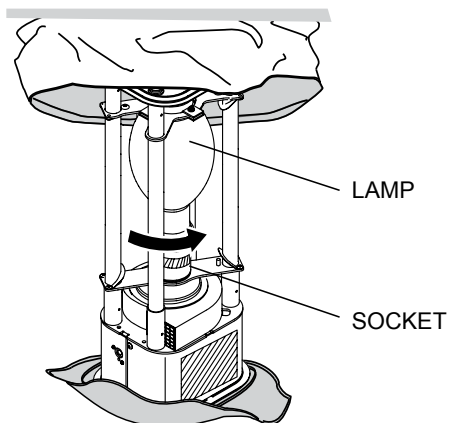

Figure 40. Installing Lamp
9. Install replacement lamp (Figure 40) into lamp socket and turn lamp in a clockwise direction until tight. Press tabs on the lamp holder and slowly bring down the holder to secure lamp in place.